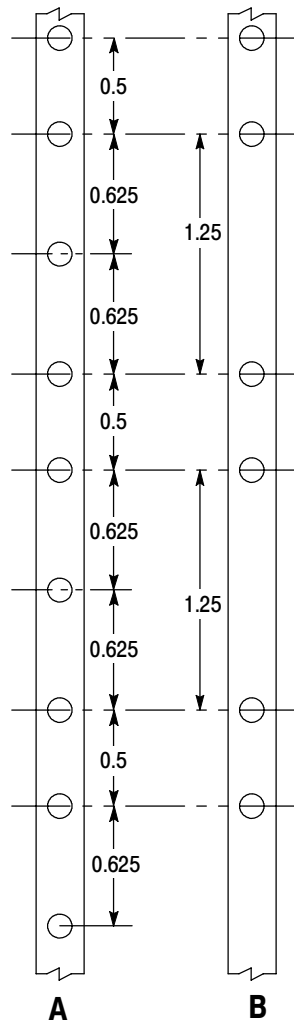

Figure 11: Rack mounting hole spacing
2. Standard equipment racks utilize one of two mounting hole spacing methods. Both methods use mounting holes spaced 0.5 inch apart, separated by a 1.25 inch gap. One method (A) places an additional mounting hole in the middle of the 1.25 inch gap (at 0.625, or $\frac{5}{8}$, inch); the other method (B) does not. See Figure 11.